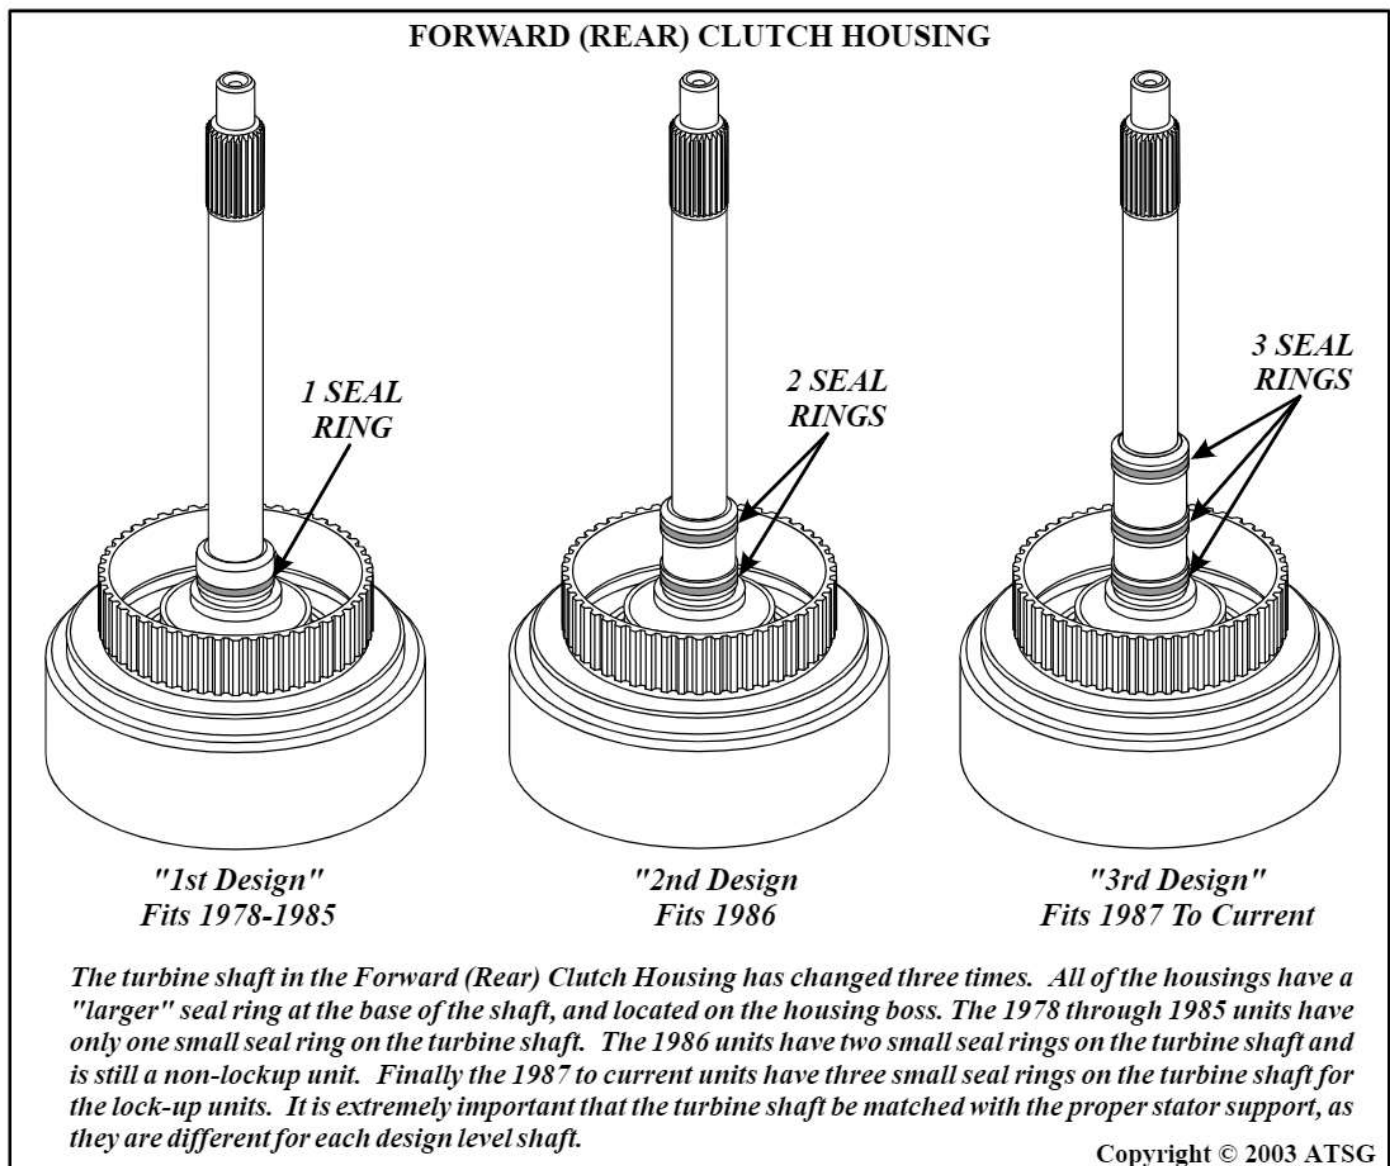

Figure 77
The turbine shaft in the Rear (Forward) Clutch Housing has changed three times, as shown in Figure 77. It is extremely important that the turbine shaft be matched with the proper stator support, as they are different for each design level shaft.
22. Install the appropriate amount of **new** small sealing rings on the turbine shaft, as shown in Figure 77, and a **new** large sealing ring on the boss of the housing.
The "1st Design" Oil Pump Assembly has "Lugs" on the inside diameter of the inner pump gear, as shown in Figure 82. On the "1st Design" stator shaft, the input shaft bushing is one inch down inside the second bore, and also shown in Figure 82. The "1st Design" level pump assembly also requires the "1st Design" level input shaft, that is shown in Figure 77. Obviously this design level would also require a torque converter that was compatible with the inner pump gear.
The "2nd Design" Oil Pump Assembly has "Flats" on the inside diameter of the inner pump gear, as shown in Figure 83. On the "2nd Design" stator shaft, the input shaft bushing is flush with the second bore, and also shown in Figure 83. The "2nd Design" level pump assembly also requires the "2nd Design" or "3rd Design" level input shaft, that is shown in Figure 77. Obviously this design level would also require a torque converter that was compatible with the flats on the inner pump gear. This pump assembly was used up through mid-year 1999.
The "3rd Design" level pump assembly also requires the "3rd Design" level input shaft, that is shown in Figure 77.